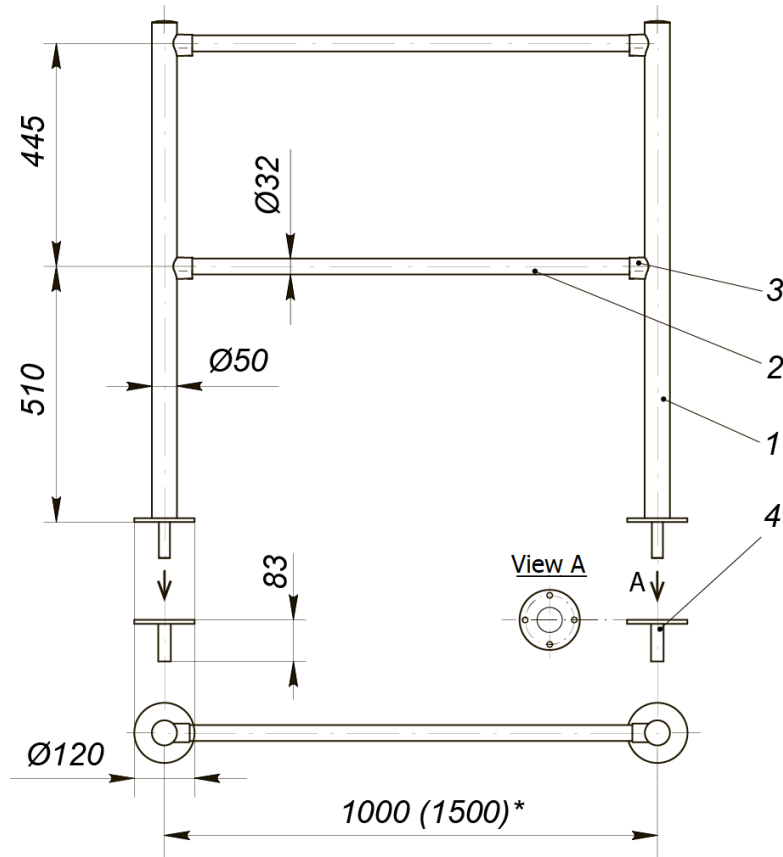

Figure 3. Fast removable railing section (without filler panel)¹:
- **Fast removable railing section** (see Figure 3) with or without filler panel, designed for periodical passage area restriction or interior decoration.